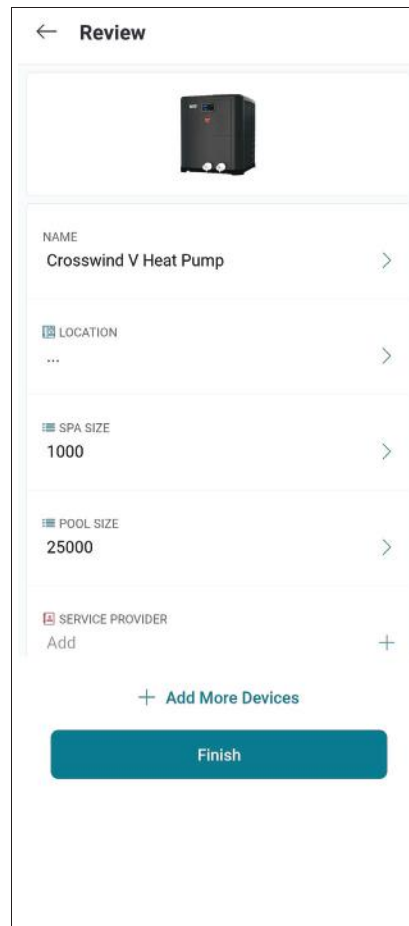

Figure 82. Device Setup Review
3. During device configuration, basic reference information about the heater will be requested, including service provider, site location, Pool and Spa size. See Figure 82.